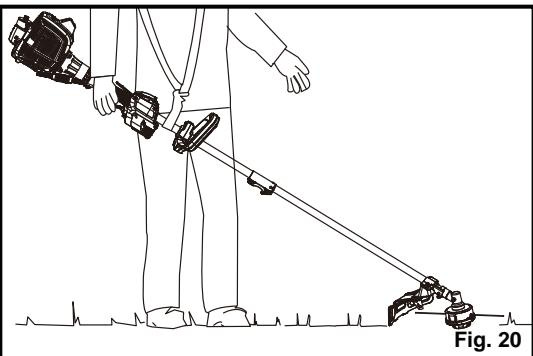

Fig. 20
- Let the machine hang from the strap and wait until it is in balanced position. Ensure the machine hangs freely above the ground. The cutting head should just touch the ground (Fig. 20).